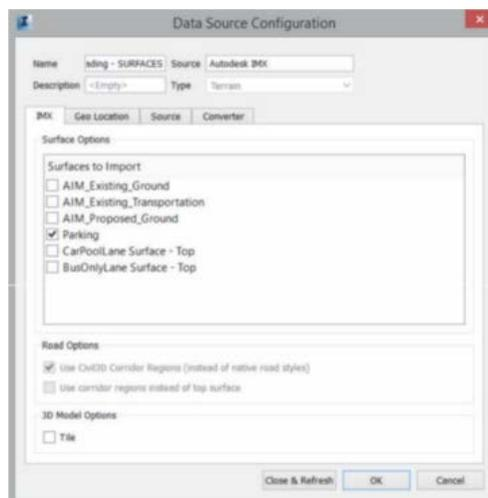

Figure 25
- **Surfaces:** Both existing ground and finish ground surfaces can be imported, becoming terrain surfaces. If a grid surface is imported, it is converted into a TIN surface. Only one surface can be displayed in the model at a time, so you must select which surface to import in the IMX tab in the Data Source Configuration dialog box, as shown in Figure 25.